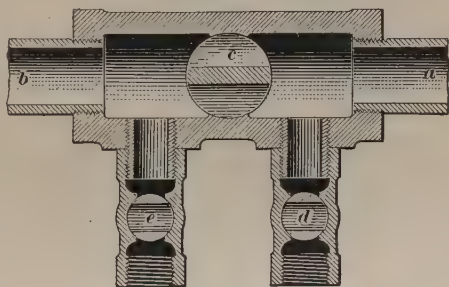

FIG. 19
25. The special filler cock is shown in section in Fig. 19. It should be placed in the lowest point of the system and as near the Baker heater as practicable; a double circulation requires two. The circulation piping is connected
dirt have been driven out of the pipes. Then close *e* and *d* and open *c*, bringing the device into the position shown in Fig. 19, which is its condition at all times, except when blowing out or filling the pipes. The position of each of the cocks is denoted by a groove on the end of the shank, each groove running in the same direction as the opening in the cock.
pipes filled as previously directed; if there is a filler cock in the cross-over pipe, as shown in Fig. 19, proceed as detailed in Art. 25, after which steam may be turned into the commingler to start the circulation and free the pipes from the air that will have remained in them.